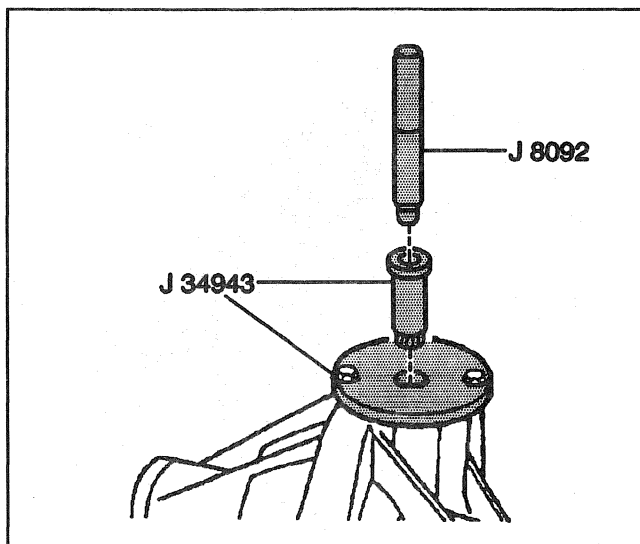

Figure 12—Installing the Pilot Bearing
Install or Connect (Figures 12 and 13)
1. Pinion pilot bearing using J 34943 and J 8092 (Figure 12).